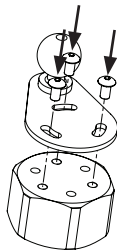

Figure 2
4. Using the  $5/64$ " Hex Key, fasten the *Extension Plate* to the *Steering Stem Nut* with the three *Extension Plate Screws* as shown in **Figure 2**. The ball should be oriented towards the front of the motorcycle.